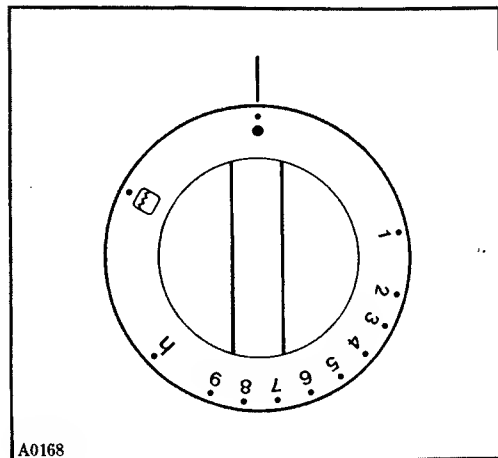

Fig. 2
2. Firmly depress the oven control knob (Fig. 2) and turn it anticlockwise to the maximum setting and at the same time operate on the relevant pushbutton marked by a small electric spark. Keep the oven control knob depressed for 10-15 secs.